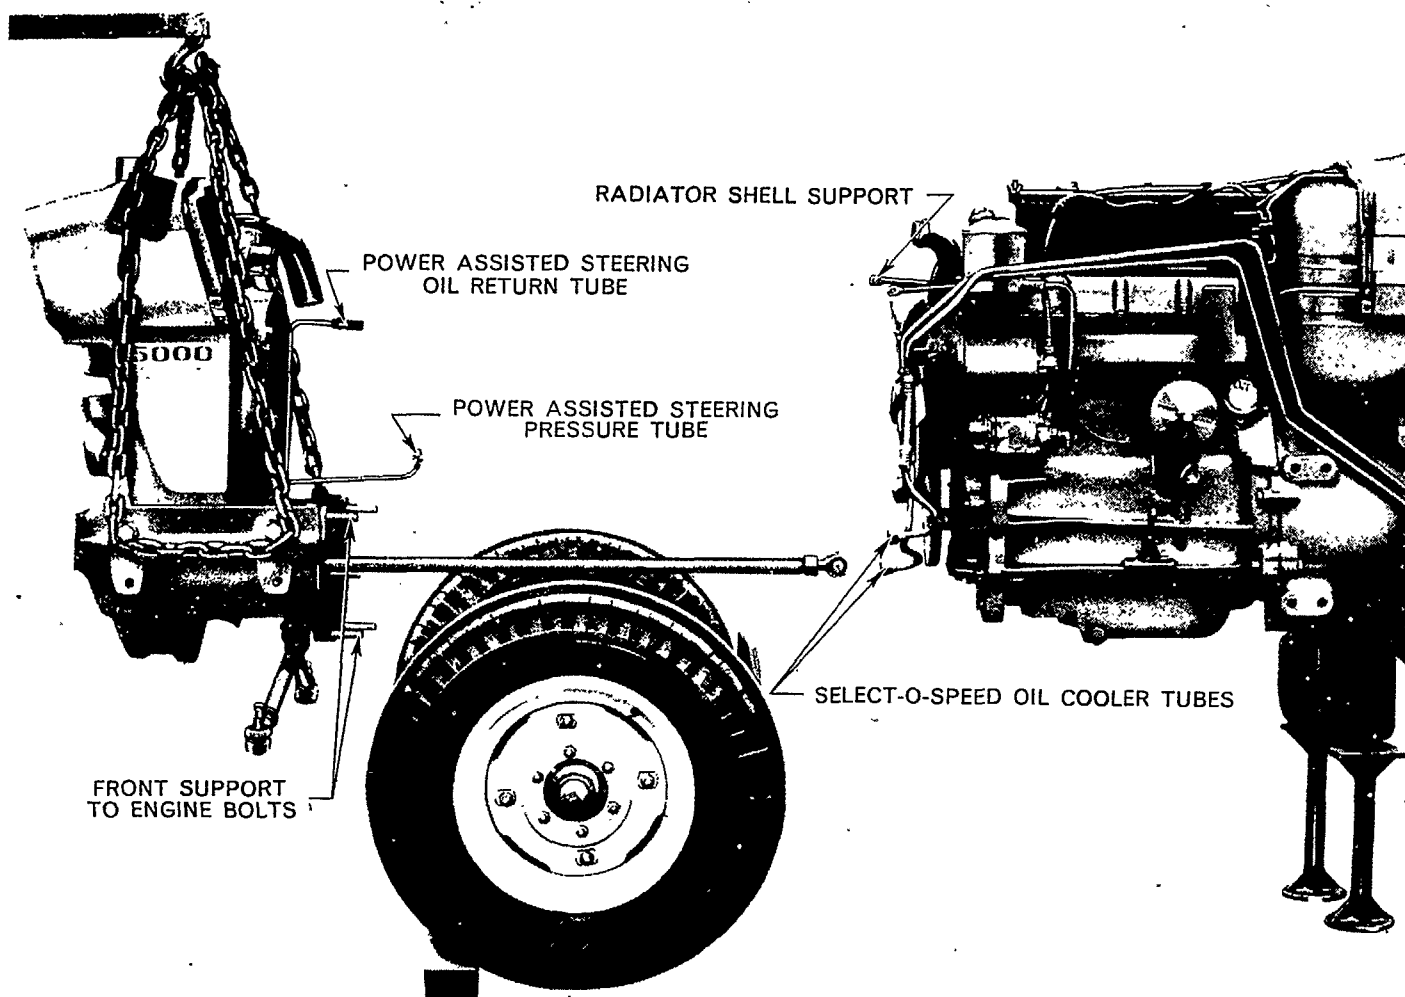

Figure 10
8. Loosen the radiator hose clamps and disconnect them from the radiator. Loosen the air cleaner hose clamps, Figure 10.